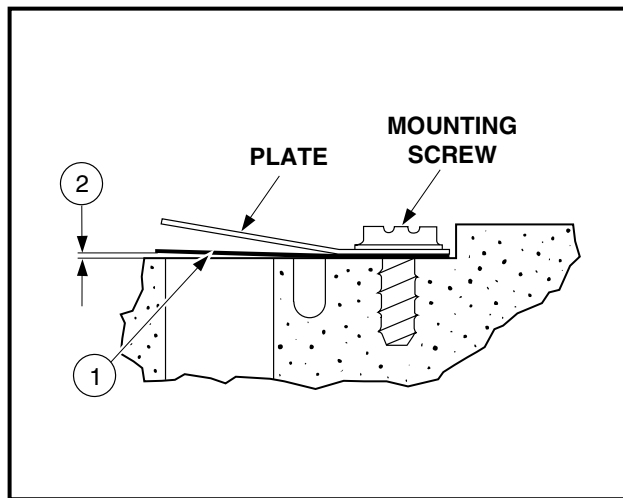

Figure 3-33 Reed Valve
1. Inspect the reed valve (1) for sticking or binding. Replace if necessary (**Figure 3-33, Page 3-18**).
3. Inspect the reed valve (1) seating surface. It must not have any nicks or burrs.
NOTE: Place the reed valve on the seat so there is a slight gap of (2) 0.008 inch (0.203 mm) maximum between the valve and the seat (**Figure 3-33, Page 3-18**).